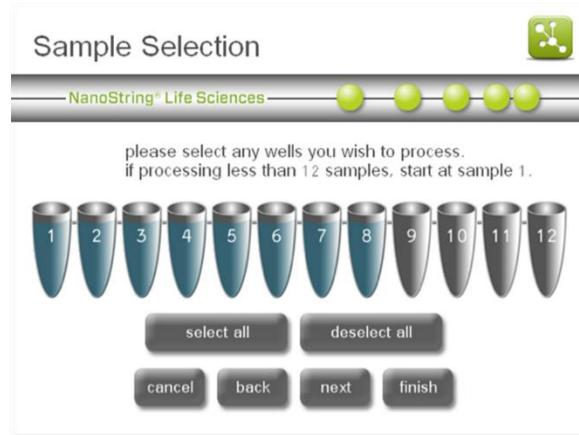

Figure 15: The ‘Sample Selection’ screen.
- The ‘Sample Selection’ screen will appear (**Figure 15**). Select the sample positions that will be processed. Blue tubes will be processed, and grey tubes will not be processed. If processing fewer than 12 tubes, begin with tube 1. Press **next**.